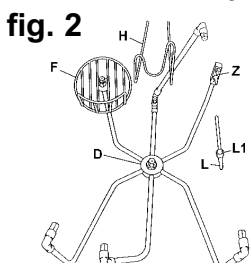
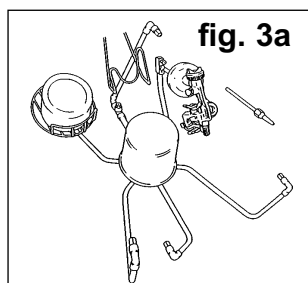
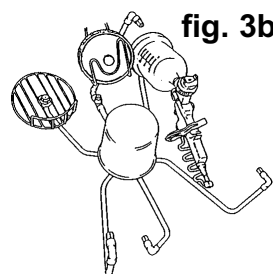
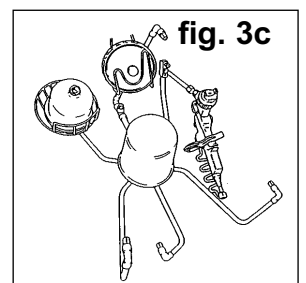

fig. 2
fig. 3a
fig. 3b
fig. 3c
- a) If suction gun with pot removed, fit directly onto taper nozzle (fig.2.Z) as shown in fig.3a.
- b) If gravity gun with pot attached, fit long nozzle (fig.2.L) over nozzle (fig.2.Z), adjust sleeve (fig.2.L1) to suit and fit gun. Place pot and cap on supports (fig.2.F and H) as fig.3b.
- c) If gravity gun with pot removed, fit long nozzle (fig.2.L) over nozzle (fig.2.Z), adjust sleeve (fig.2.L1) to suit and fit gun, pot and cap as fig.3c.
- 5.1.6 Paint containers of up to 5 litres can be cleaned by placing them over the central nozzle (fig. 2.D), as shown in figs. 3a/b/c.